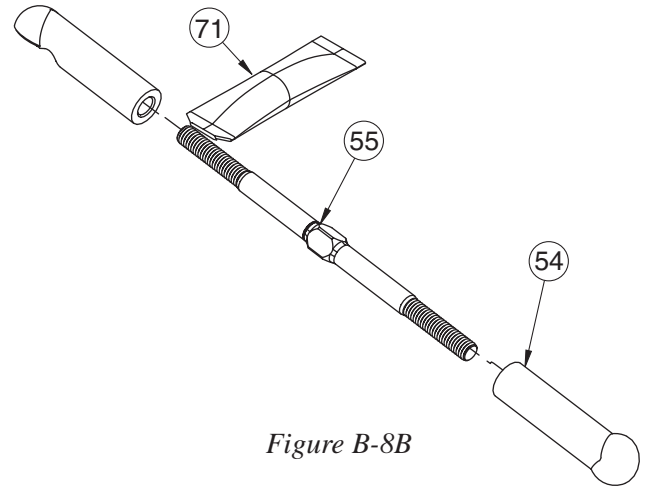

Figure B-8B
❑ 1. Thread a plastic Rod End (54) onto each end of a 2-3/8" Turnbuckle (55). Tighten both Rod Ends equally until the Tierod is the same length, and the Rod Ends are in the same orientation, as the assembled Tierod in Figure B-8B (Left).
❑ 2. Assemble the second camber link with the Rod Ends orientated as Figure B-8B (Right).
❑ 1. Place a "Foam Thing" (56) over the Ball Studs (72) on each of the Spindle Carriers (41) (43) and on the Ball Studs (38) (72) on both sides of the Bulkhead (32). Next, attach one side of a camber link assembly (Figure B-8B; Left) to the Ball Stud on the left side of the Bulkhead. Attach the other side of the camber link assembly to the silver colored Ball Stud in the Spindle Carrier.